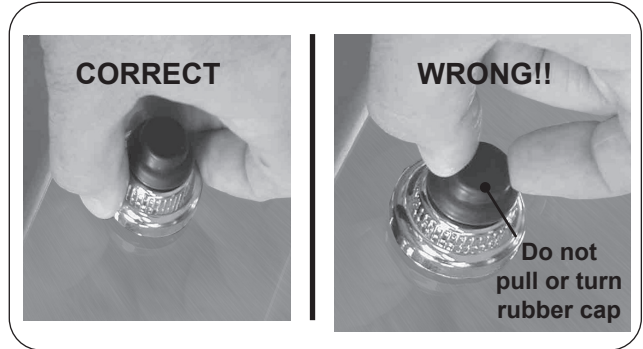

Fig. 38-1 Remove igniter cover
1. Remove the igniter cover by turning it counterclockwise (see Fig. 38-1).